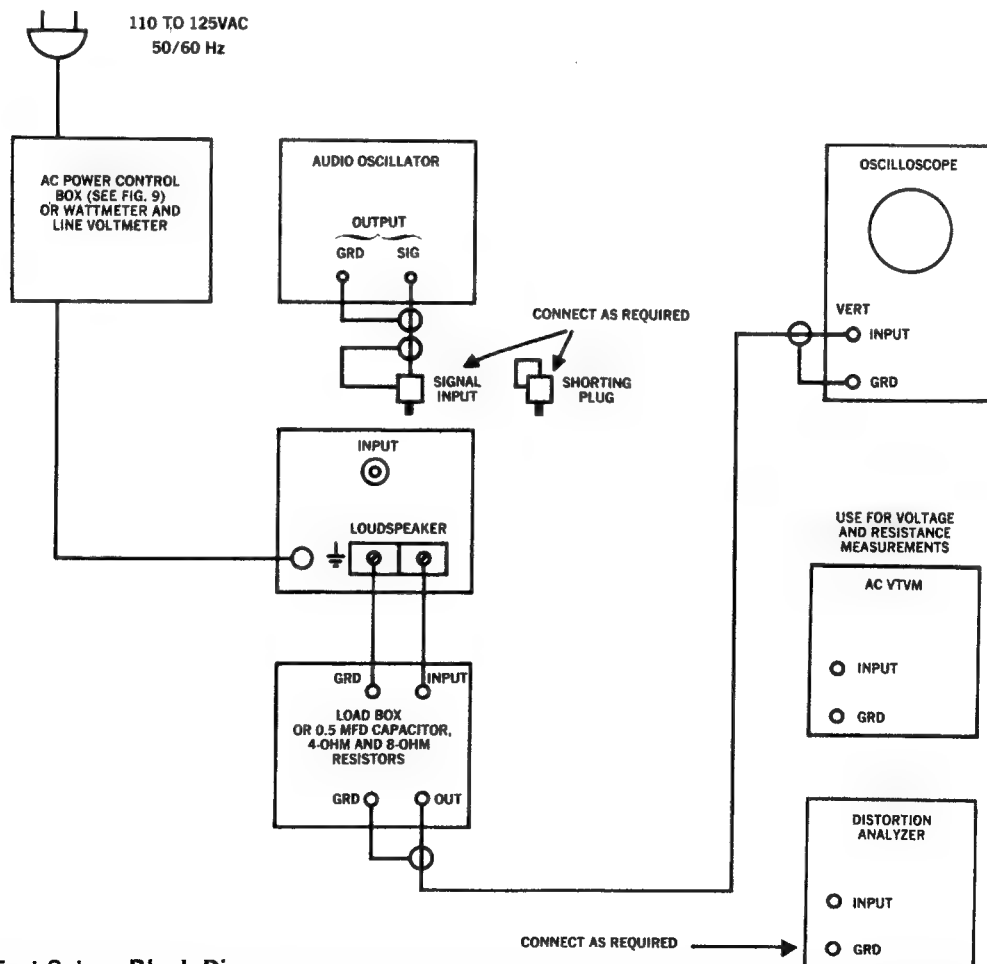

Figure 10. Test Setup, Block Diagram.
1. Make the test set-up shown in Figure 10 with the instrument controls set in the following positions:
1. With an oscilloscope connected as shown in Figure 10, set the oscilloscope in the DC amplification position and select the greatest gain position.